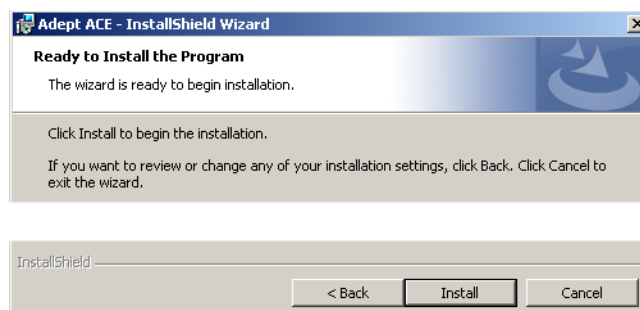
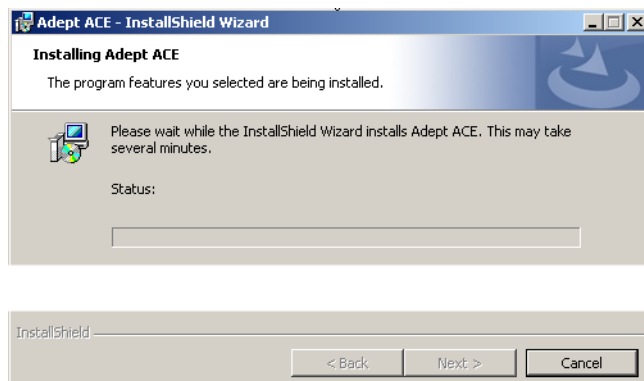

Figure 3-4. Ready-to-Install Screen
Figure 3-5. Install Screen
- The Adept ACE Setup wizard opens - see Figure 3-4 and Figure 3-5. Follow the instructions as you step through the installation process.